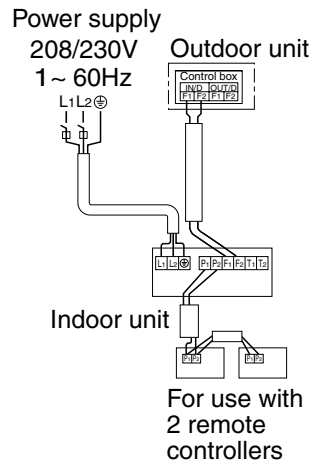

Fig. 30
- (3) Remove the control box cover
- (4) **Add remote control 2 (slave) to the terminal block for remote controller (P1, P2) in the control box.** (There is no polarity.) **(Refer to Fig. 30 and 8-3.)**